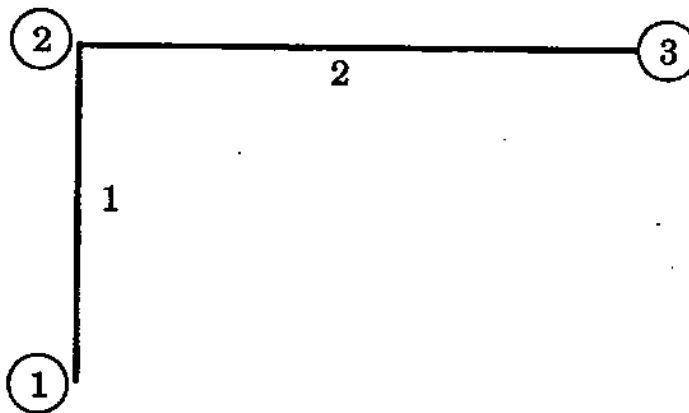

Figure 4
2. (a) A plane frame is shown in Figure 4. The stiffness matrix of elements 1 and 2 with respect to global axes are also shown. Assemble the global stiffness matrix of the frame. Node number is shown in circles.  $8 \times 5 = 40$